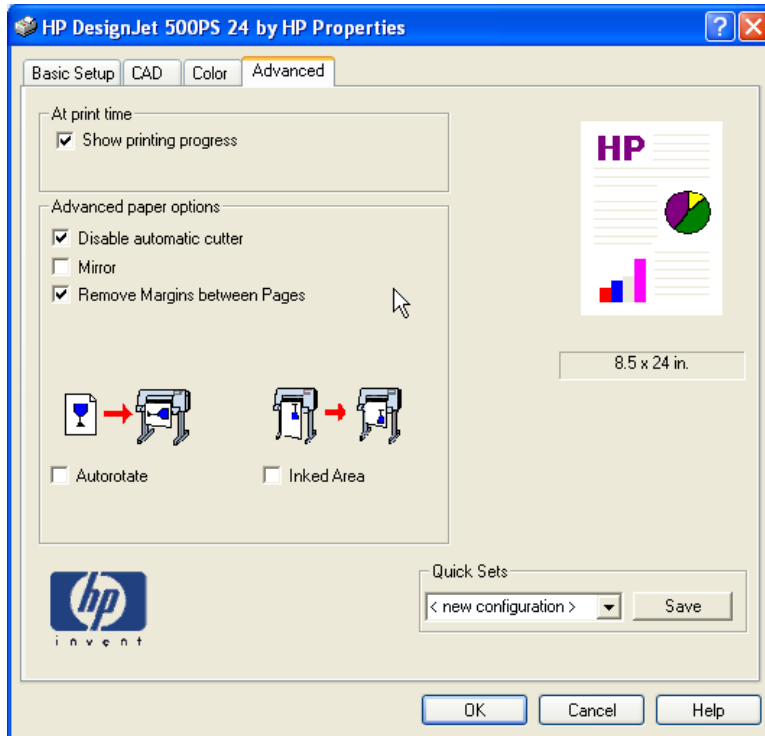
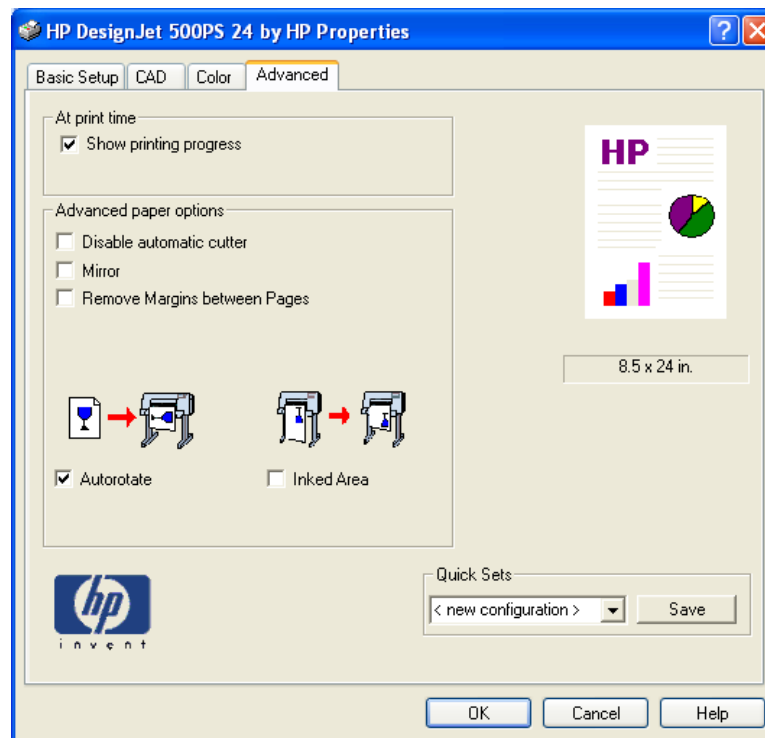

Figure 1
Figure 2
- 9.) Power*Log printing (portrait page orientation). **If you are printing from Power*Curve (horz logs) proceed to Step 10** Now click on the **Advanced** tab to define the final output of your log. There are several things you can do here. Disable the cutters for a vertical log and remove the page margins to print a continuous log and waste a log of paper. **Figure 1** Or auto rotate the image, enable the cutters and do not remove the page margins to save paper **Figure 2**. Proceed to Step 11